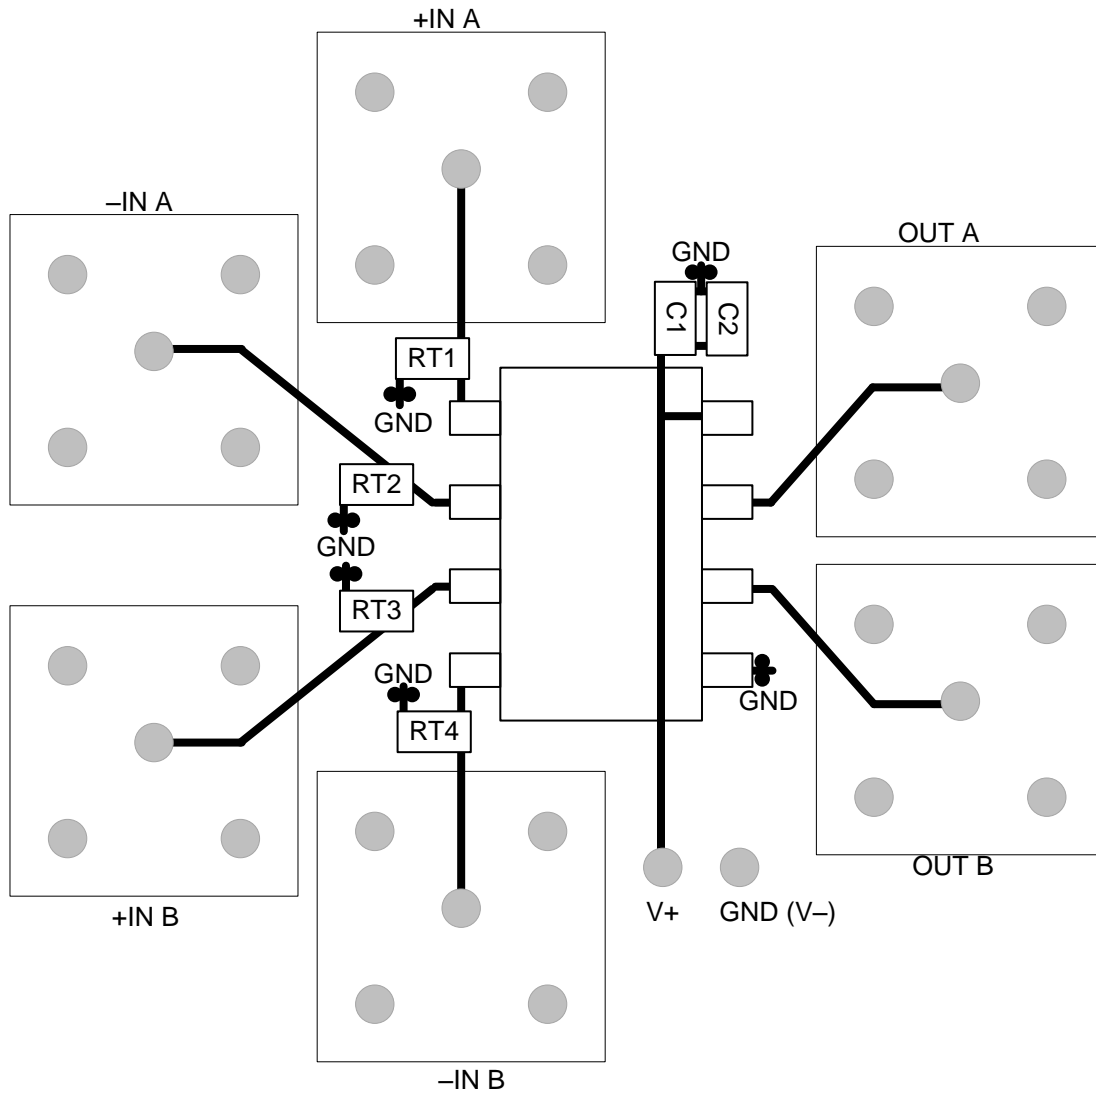
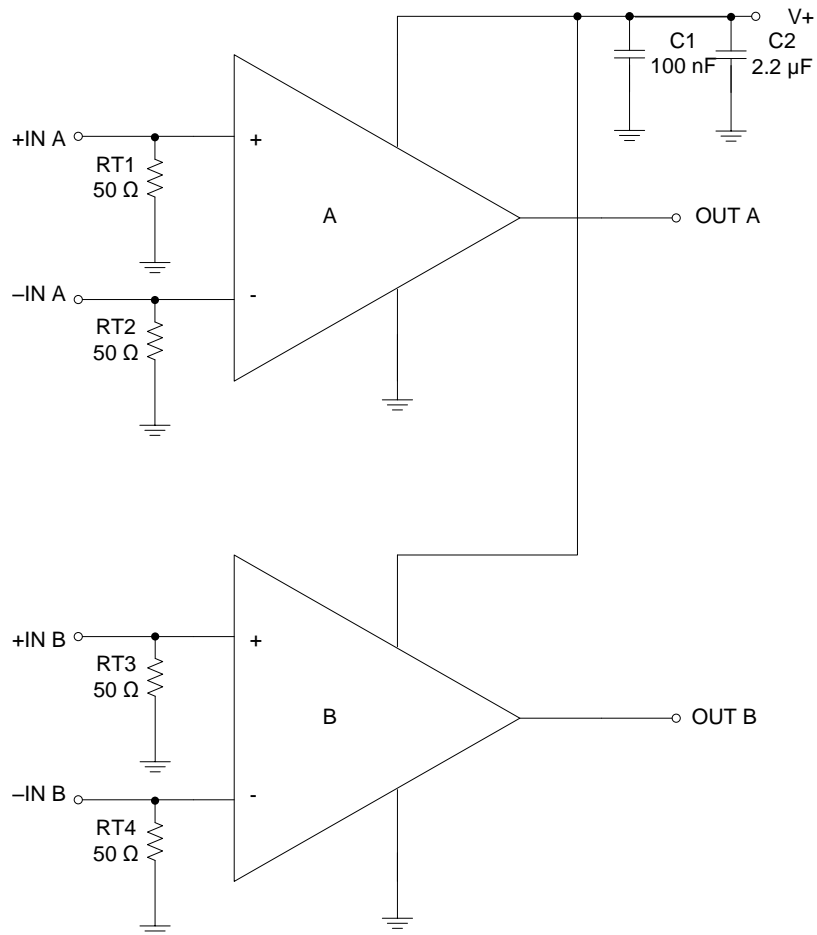

Figure 21. TLV3502-Q1 Sample Layout
Figure 22. Schematic for Figure 21
- Figure 21 shows an evaluation layout for the TLV3502-Q1 SOT23-8 package. The device is shown with SMA connectors bringing signals on and off the board. RT1, RT2, RT3 and RT4 are termination resistors for + IN A, + IN B, -IN A, and -IN B respectively. C1 and C2 are power-supply bypass capacitors. Place the 0.1- μF capacitor closest to the comparator. The ground plane is not shown, but the pads that the resistors and capacitors connect to are shown. Figure 22 shows a schematic of this circuit.